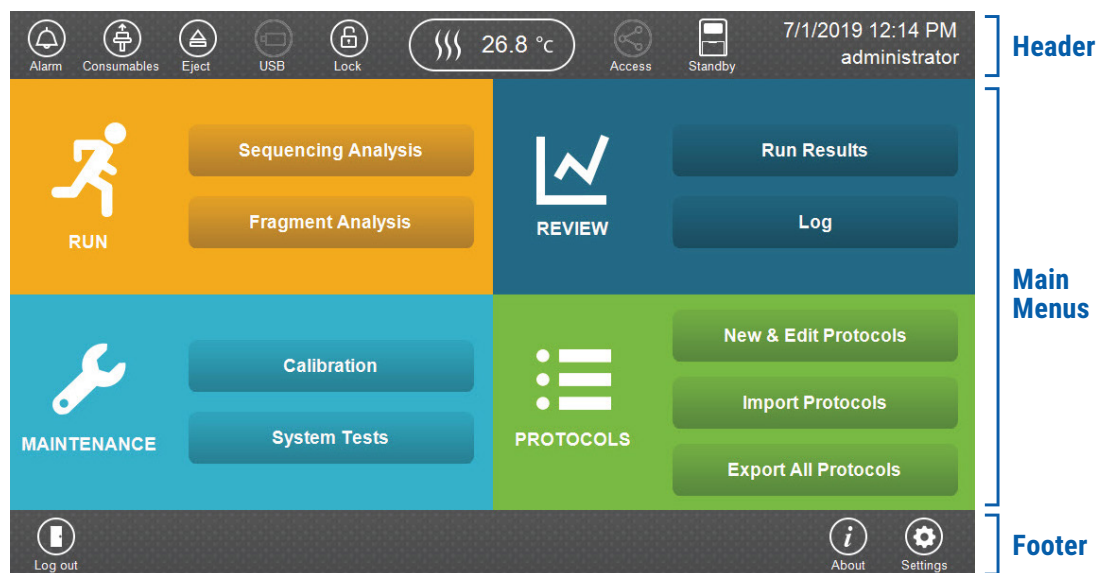

Figure 3. Spectrum Compact CE System Software 'Main Menu' screen.
1. Before starting a run, ensure all consumables are installed and in sufficient supply. For best quality results, use unexpired reagents that are within the recommended use range (Figure 4 and Table 4). Refer to the 'Consumables' screen to determine if any consumables need to be replaced. To access the 'Consumables' screen, select the **Consumables** icon in the Header on the 'Main Menu' screen (Figure 3). The 'Consumables' screen displays information for the four consumables on the instrument: Polymer, Capillary Cartridge and Anode and Cathode Buffers.